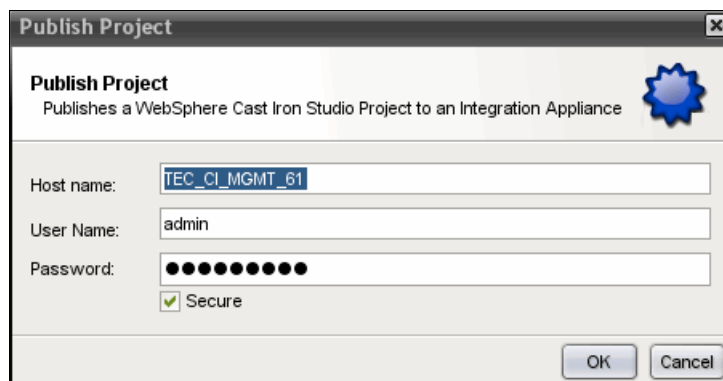

Figure 10-72 Login for publishing
5. Enter or validate the host name for the target run time, the user name, and the password, as shown in Figure 10-72.